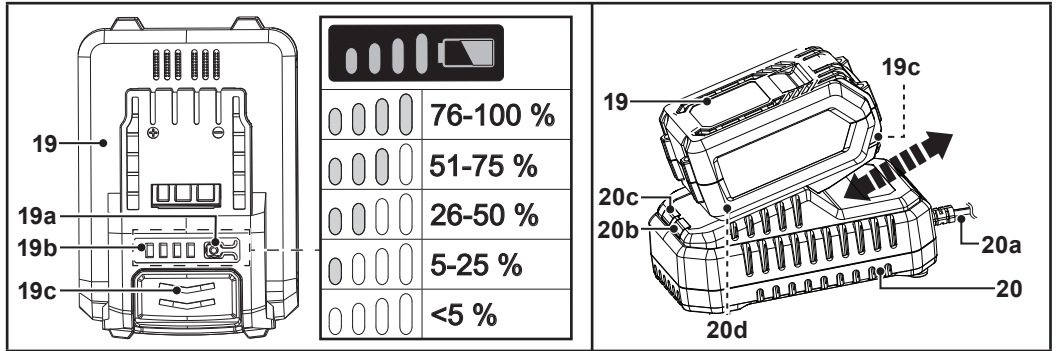

Fig. 4
1. Press the battery capacity button (19a) (Fig. 4).
2. The LEDs of the battery capacity indicator (19b) will stay lit for approximately 10 seconds (Fig. 4).
4. **When the charging is completed:** Hold the charger (20) in position with one hand. Press the release button (19c) and slide the battery pack (19) out (Fig. 4).